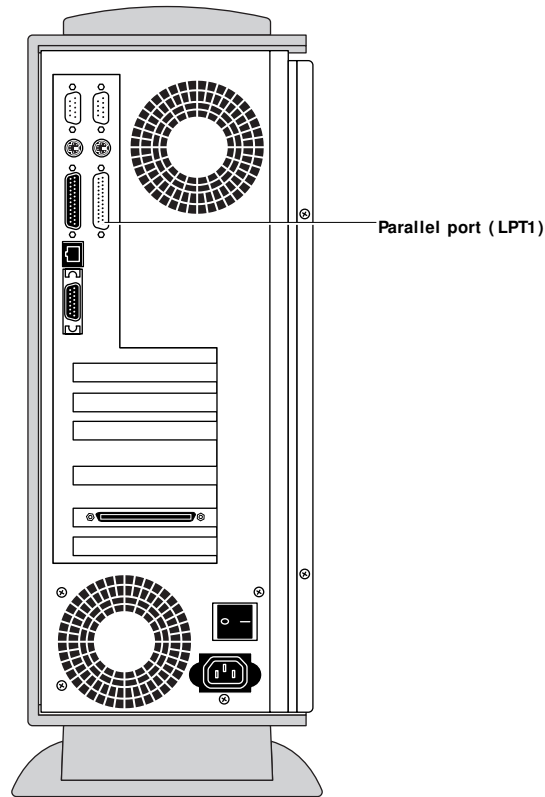

FIGURE 3-7 Parallel port (LPT1)
4. **Connect the female 25-pin connector on the cable to the parallel port (labeled LPT1) on the back of the Fiery ZX (see Figure 3-7 on page 3-12).**